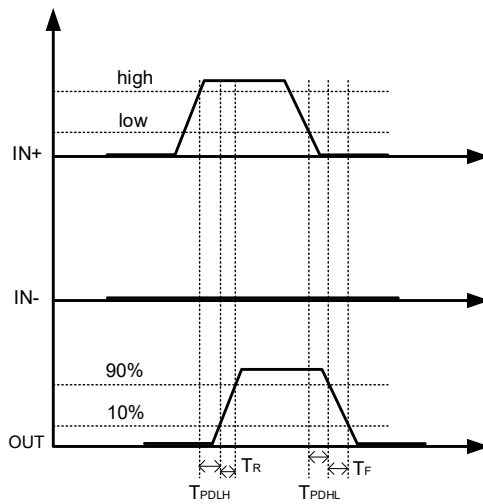
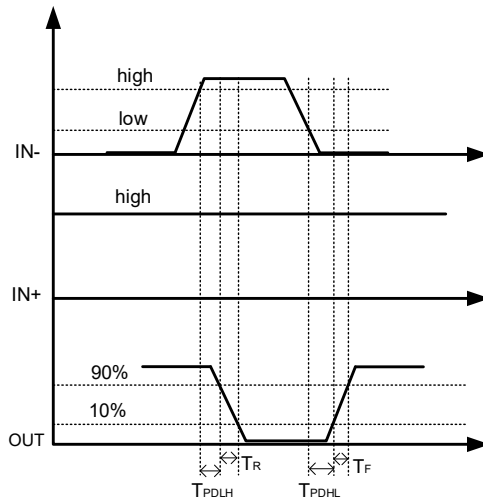

Figure 6.1 Noninverting Configuration
Figure 6.2 Inverting Configuration
- 2) See timing diagrams in Figure 6.1, Figure 6.2.